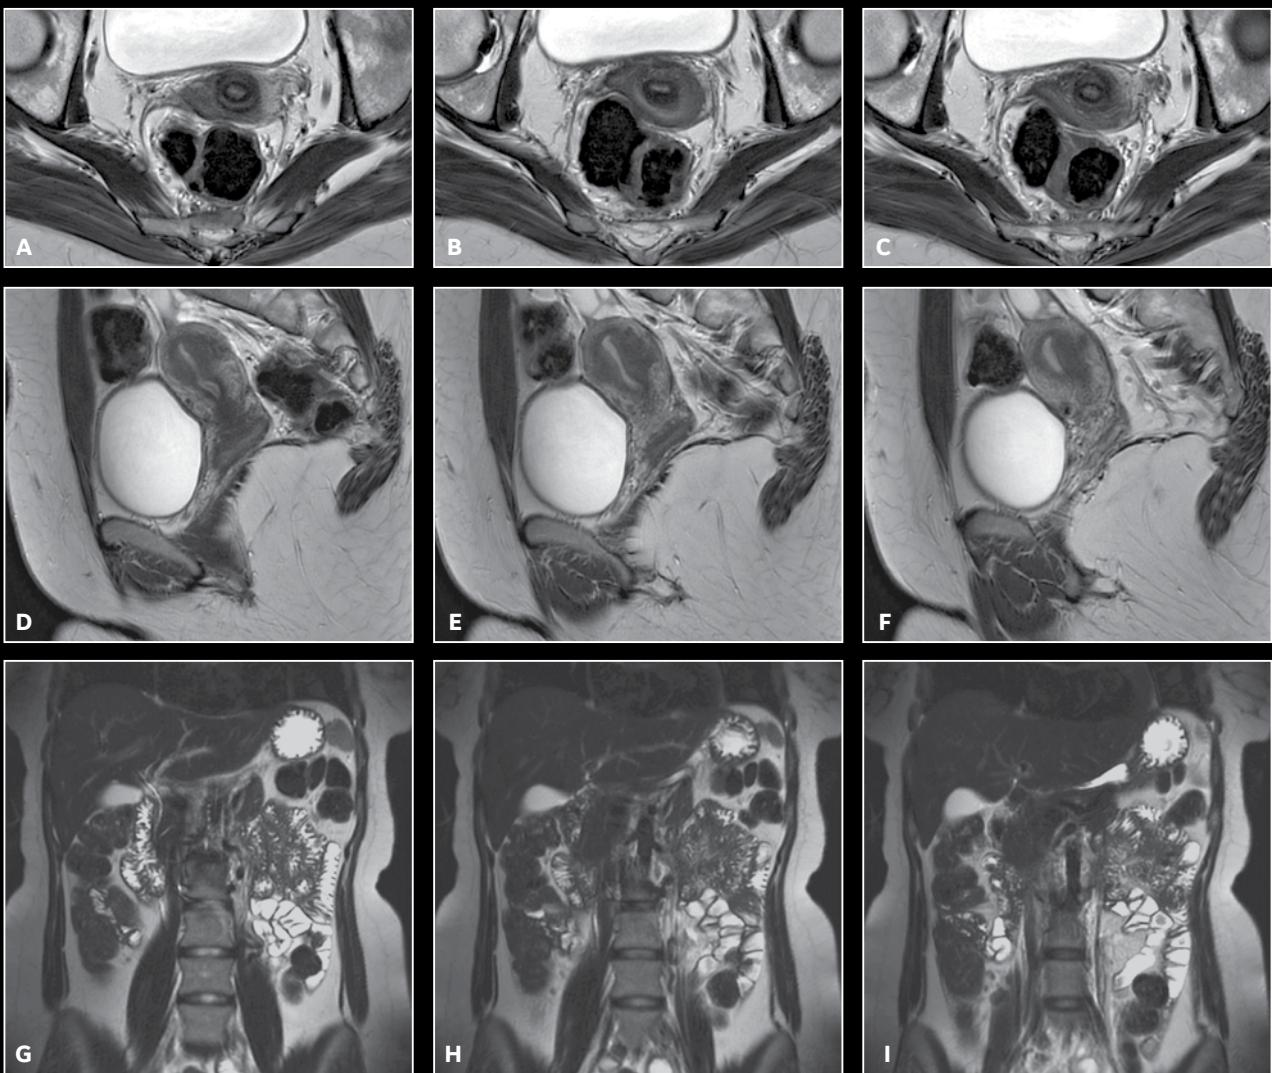

Figure 1. Female pelvis imaging with AIR™ AA Coil and PROPELLER MB. (A-C) T2 axial PROPELLER MB; (D-F) T2 sagittal PROPELLER MB; (G-I) T2 coronal SSFSE.
Figure 1. Elbow exam on patient weighing 260 lbs. and 5 ft. 7 in. tall with his arm by the side. (A) Sagittal PD FSE, 0.3 x 0.4 x 2.5 mm, 5:22 min.; (B) coronal PD FSE, 0.3 x 0.4 x 1.8 mm, 4:49 min.; (C) coronal T2* GRE, 0.3 x 0.6 x 1.7 mm, 5:23 min.; and (D) axial PD FSE, 0.3 x 0.5 x 3.5 mm, 3:01 min.
Figure 1. AIR™ AA Coil provides excellent signal penetration for high-quality images. (A) Sagittal T2 SSFSE; (B) Coronal T2 SSFSE; (C) Axial T2 SSFSE; and (D) Axial DWI b800.